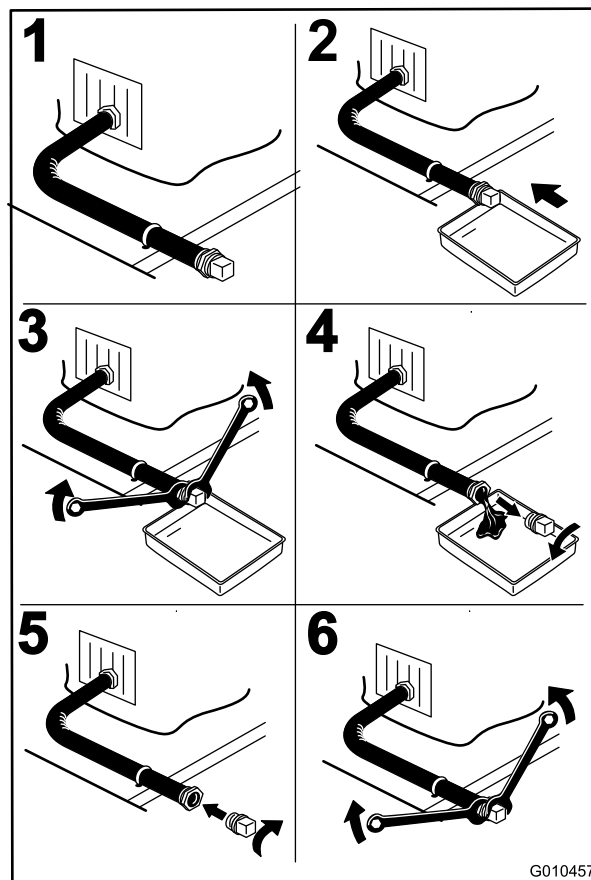

Figure 36
- Stop the engine, remove the key, and wait for all moving parts to stop before leaving the operating position (Figure 36).